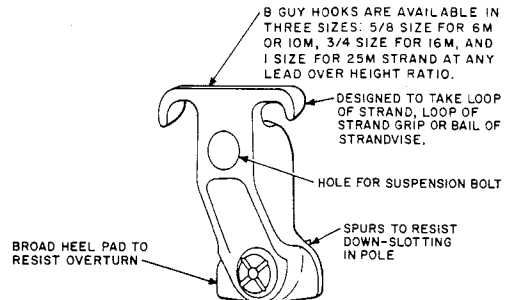

Fig. 1—B Guy Hook
- (a) The B guy hook illustrated in Fig. 1 is used for attaching guys to poles or stubs.